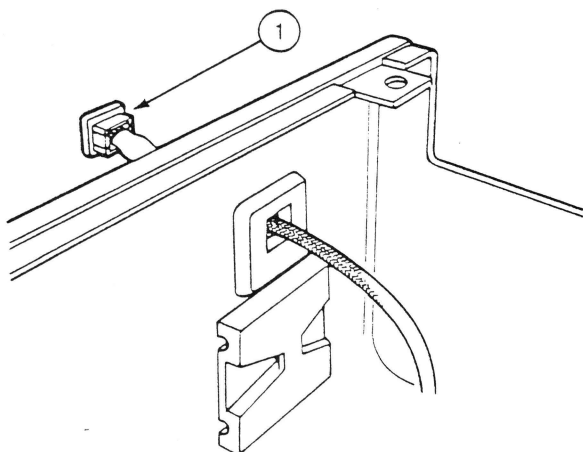

FIGURE 9
12. Connect LED cable to controller card (Figure 9). Place Customer's LED Cable Assembly and old "Ready" label in the bag, from which you got the new assembly, to be returned with the ProFile to be serviced. Put the customer's cover on the Spares Kit ProFile.